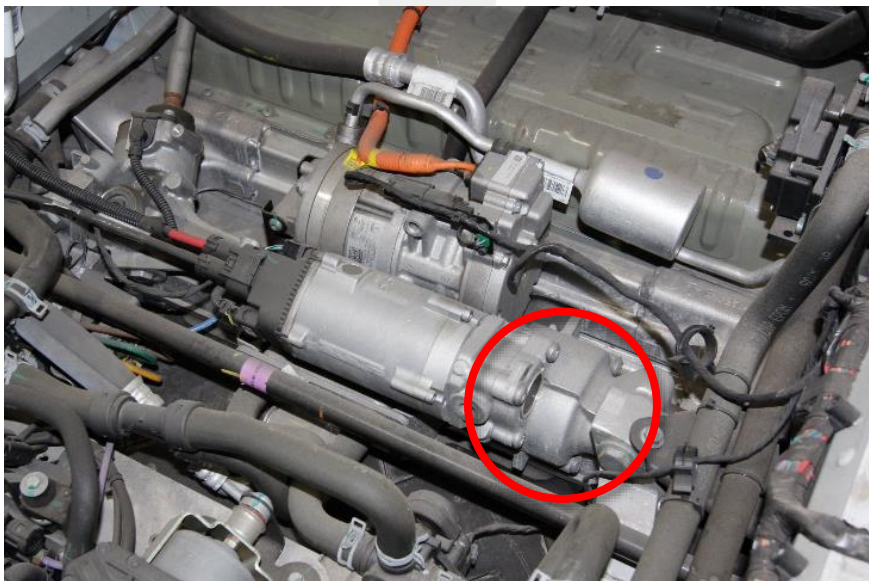

Figure 26
21. Clean the area around steering rack housing bolts 1, 2, 3, and 5 with a shop towel, and then clean debris away with compressed air (Figure 26).
22. Inspect steering rack housing bolts 1, 2, 3, and 5 from above the vehicle (Figure 26).